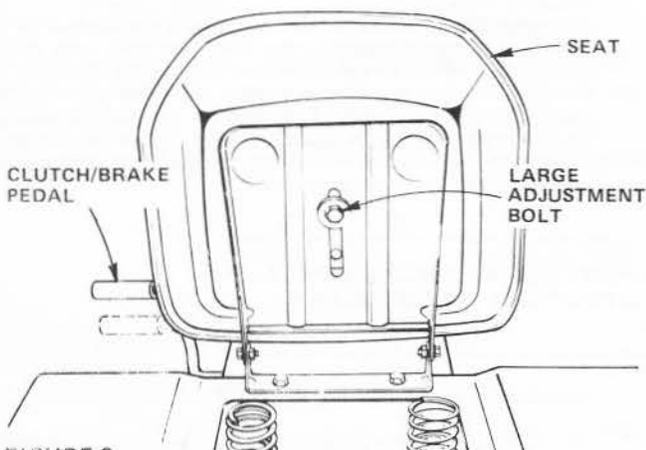

FIGURE 3
3. Place Seat on Seat Pan. Screw Large Adjustment Bolt, Lockwasher and Flat Washer into Seat (Fig. 3). Adjustment Bolt, Lockwasher and Flat Washer found in Bag of Parts. Tighten finger tight.
5. Raise Seat. Use 3/4" wrench to loosen Adjustment Bolt (Fig. 3). When adjusted for comfortable operation, tighten Adjustment Bolt securely.